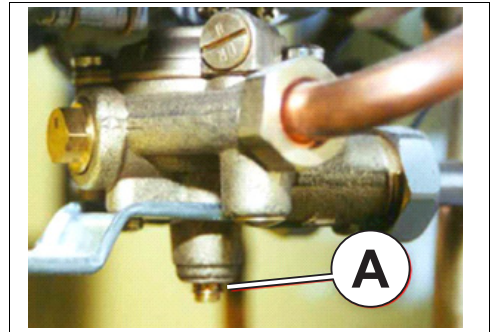

Fig. 13 Water flow adjustment screw
- ▶ Adjust the slotted screw on the base of the water valve (Fig. 13, [A]) to set the flow rate to 16L/min.